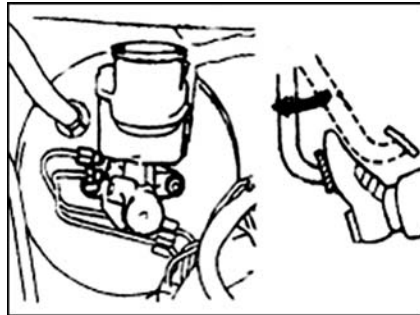

Fig. 2-40
2) Slowly step down the pedal and maintain without movement, as shown in Fig. 2-40.